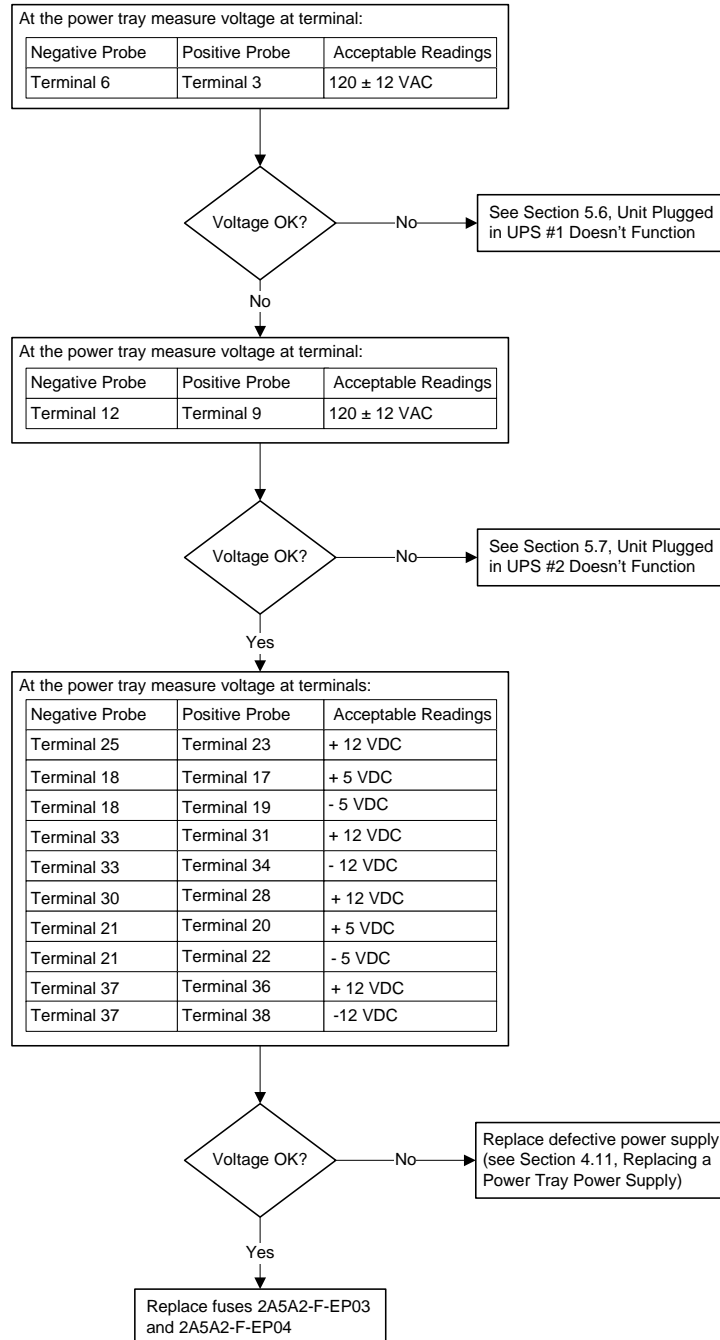

Figure 9 Troubleshooting – Device Related to Power Tray Doesn't Work
1. Follow the troubleshooting steps in Figure 9.